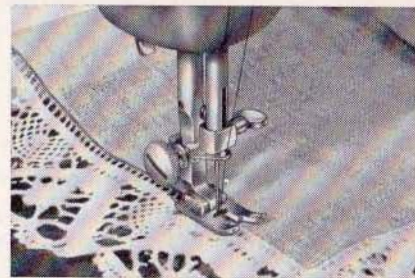

Fig. 28.
3. Place the edge of the lace close along the folded edge of the material and sew with zigzag stitches. Make sure that the needle stitches alternately into the material and the lace (Fig. 28).